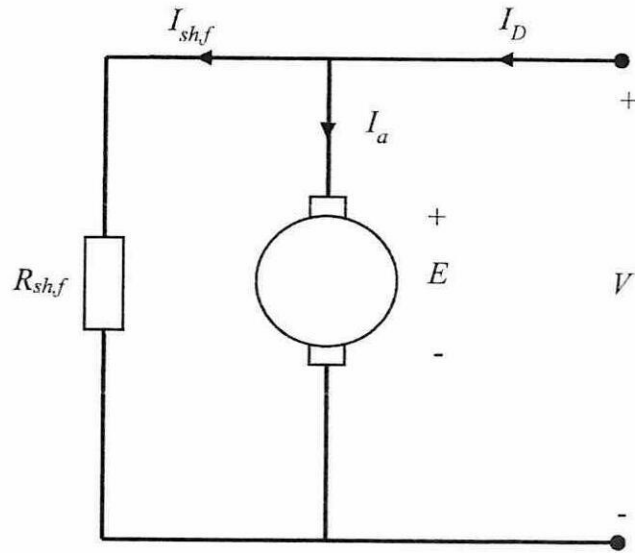

Figure Q2(b)(iv)
- Q2** (a) (i) States **three (3)** methods in controlling DC motor speed. (3 marks)
- (iv) Examine the shunt field current and armature current if the equivalent circuit is shown in **Figure Q2(b)(iv)**. (2 marks)